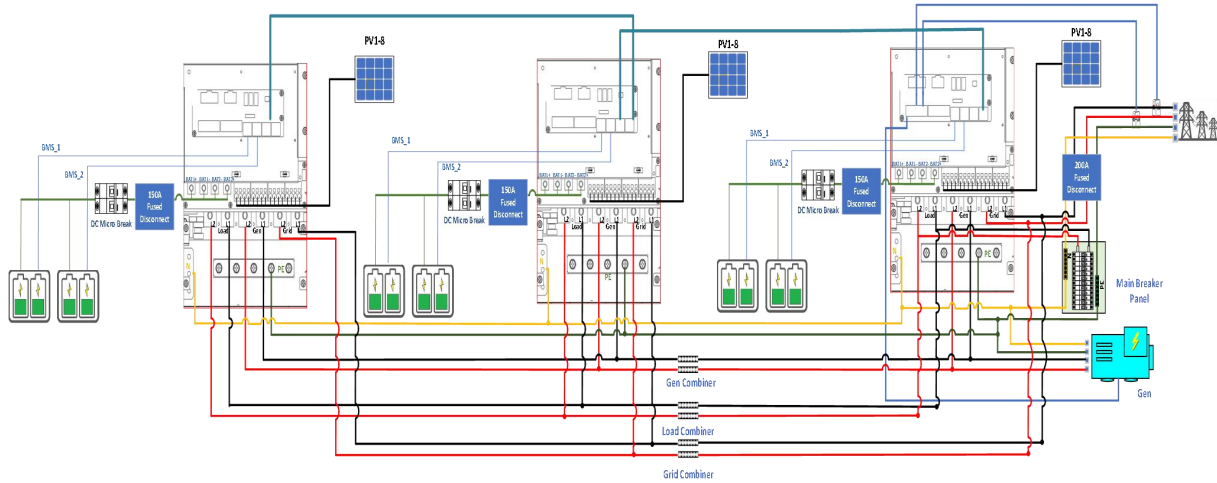

Figure 6.15 **Isuna U20K** 3 Parallel standard wiring diagram **120V/240V**
If multiple inverters are used, connect the terminal of the network cable to LINK1 of the first inverter, connect the other end to LINK2 of the second inverter, and so on. Figure 6.15 shows the sequence of the network cable connection.
- 4.Parallel standard wiring as shown in 6.2.6 Figure 6.15 (structure schematic, non-electrical wiring standard, need to connect the circuit breaker correctly according to the electrical wiring diagram).